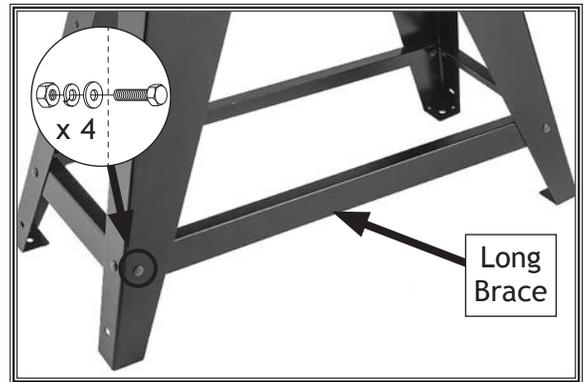

Figure 7. Long braces attached to legs.
5. Remove bandsaw from sawhorses and attach long braces to legs with (4) M8-1.25 x 16 carriage bolts, (4) 8mm flat washers, (4) 8mm lock washers, and (4) M8-1.25 hex nuts (see **Figure 7**).